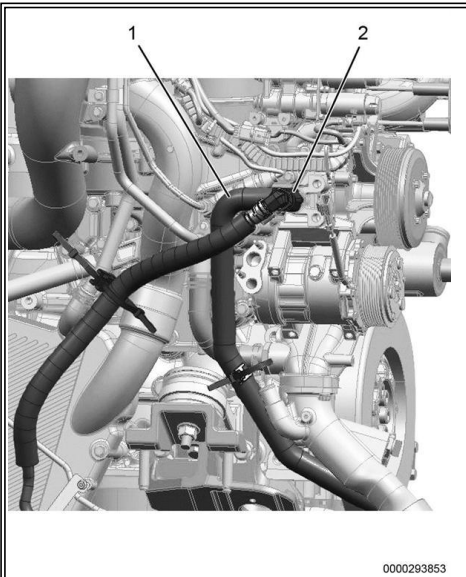

Figure 25: SCR Equipped Water Bypass Hose.
2. Remove water bypass hose (Figure 25, Item 2) from 90-degree elbow fitting (Figure 25, Item 1).